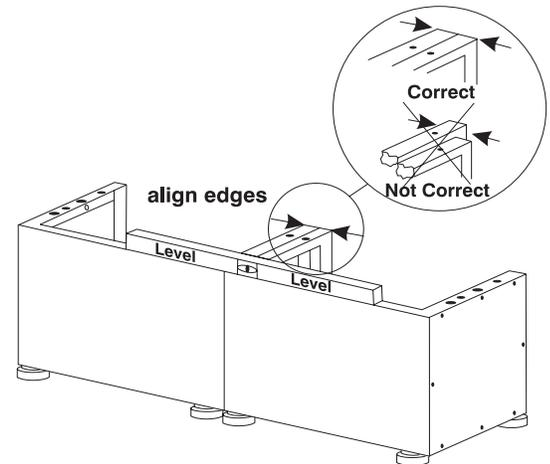

Figure 2.9. Level bases
- 7) Fine adjust the height of the bases, if required. (Figure 2.9) Make sure the threaded feet are fully engaged into the base and visible. If not, you have adjusted the feet too much.
- 9) Align the back and front edges of the base so they are flush with one another. (Figure 2.9.)